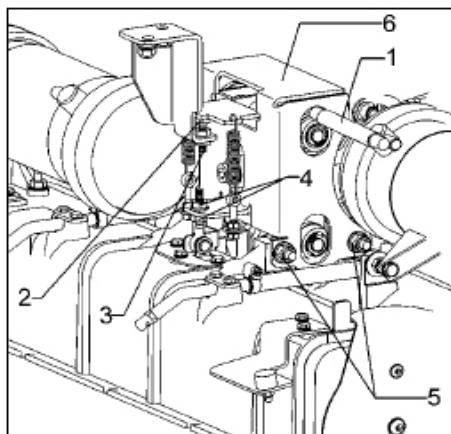

Figure 31 - Scrub Head Adjustment
4. Proceed with adjustment by using a test mandrel (Figure 31/1).
**Note:** The distance to be adjusted must be between 12 and 13mm. It must not exceed 13mm. The 13mm mandrel may fit in the neck part only. See (Figure 31/1)
5. Check the adjustment described above at both sides of the guiding angle 2 the scrub head (Figure 31/6).
6. Use the stop screw (Figure 31/2) for distance adjustment.
8. Carefully tighten the counter-nut (Figure 31/3) by hand then continue tightening using the appropriate tools.
9. Carefully tighten the counter-nut for fine adjustment (Figure 31/4) by hand, then using appropriate tools.
10. Tighten fixing screws (Figure 31/5) at both sides of the scrub head.
4. If the 2A value is not attained, proceed to re-adjustment. Loosen fixing screws (Figure 31/5)
5. To do so, loosen the counter nuts (Figure 31/4) of the fine adjustment and re-adjust.
6. Carefully tighten the counter-nut for fine adjustment (Figure 31/4) using the appropriate tools.
7. Tighten fixing screws (Figure 31/5) at both sides of the scrub head.